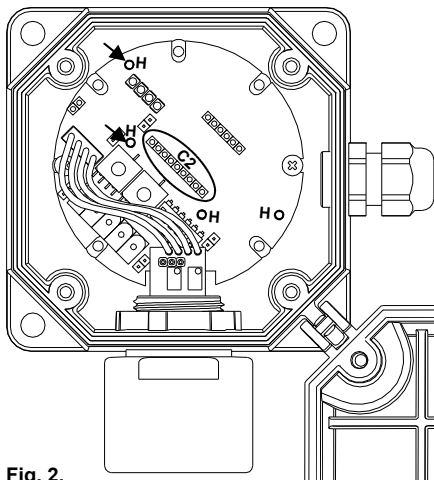

Fig. 2.
3. Locate the 4 'H' holes on the base showed in Fig. 2.
4. Locate the C2 connector on the base showed in Fig. 2.